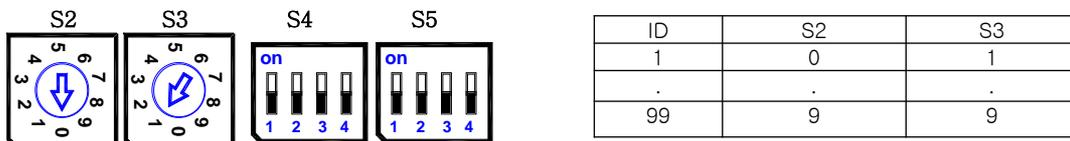

Figure5. Setting RX Address and Protocol
Refer to Figures 5 for setting the EXPTZ camera address (ID) and protocol selection